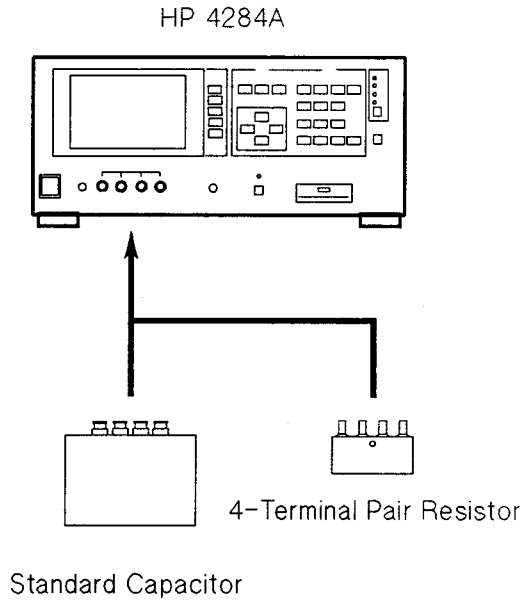

Figure 2-17. Resistor Calibration Setup
4. Perform the Resistor Calibration according to the program instructions. Figure 2-17 shows the Resistor Calibration setup.